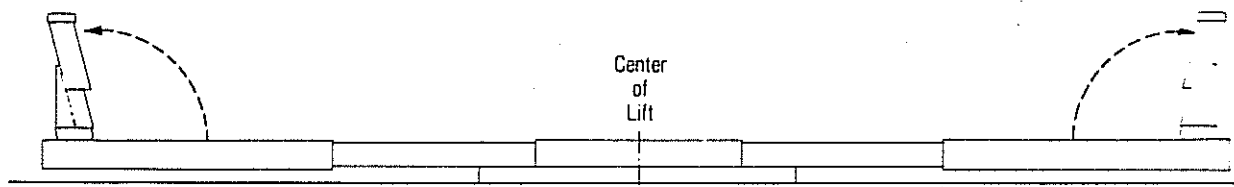

FIG. 12
3. Use care to avoid brake and fuel lines and other under-car devices. Swivel entire adapter to hinge away from center of lift, Fig. 12.